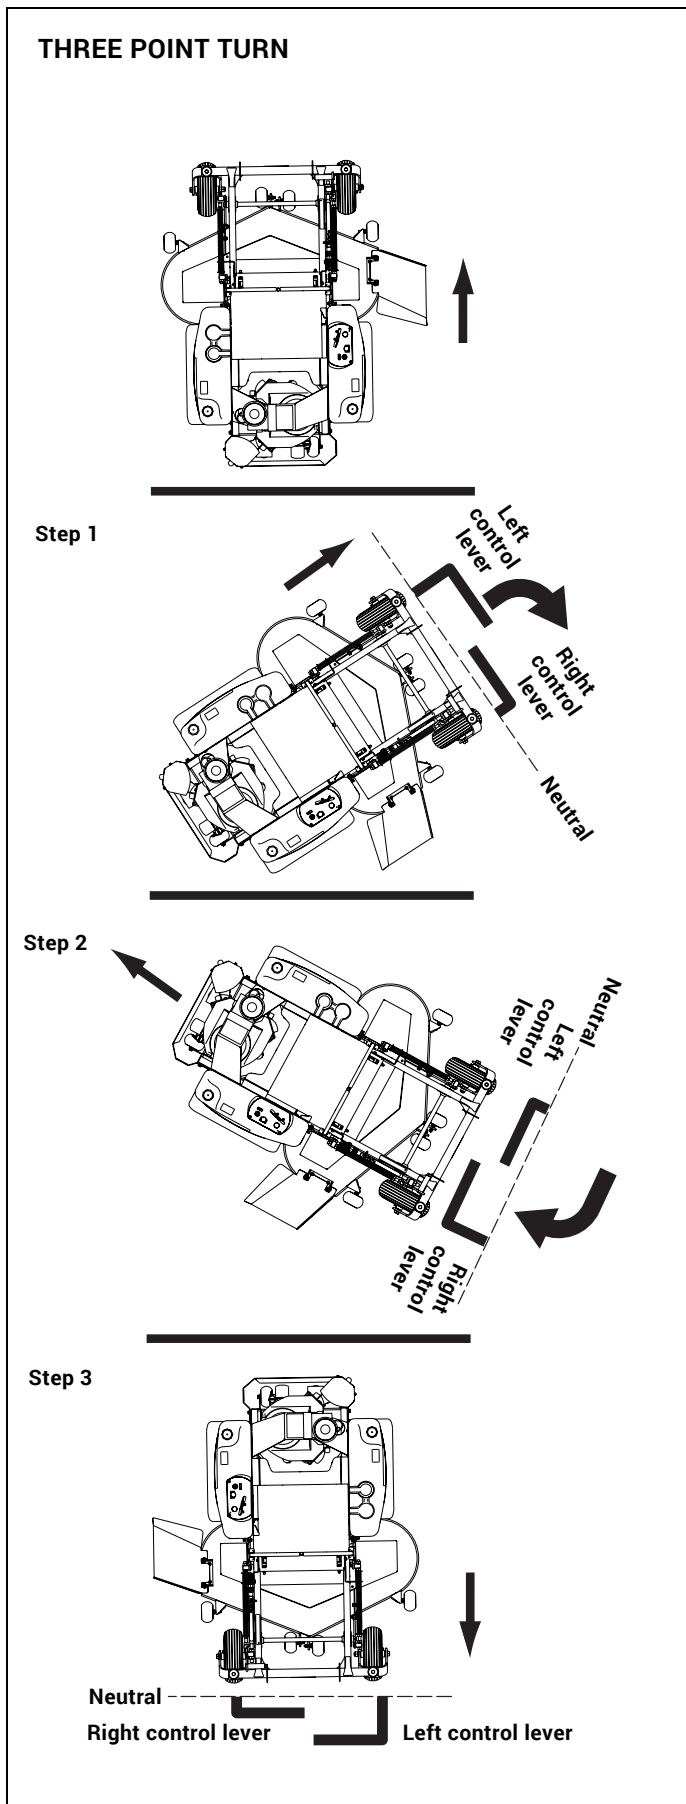

Figure 3-15
1. Move the left steering control lever farther forward from neutral than the right steering control lever and start the turn. Figure 3-15
2. Next, pull back on the steering control levers until they pass neutral and the machine starts to go rearward. Figure 3-15
3. Pull the right steering control lever farther rearward from neutral than the left steering control lever until the rear of the machine pivots around. Figure 3-15
4. Then, push the steering control levers forward until they both pass neutral and the machine starts to go forward. Figure 3-15
5. Push the left steering control lever farther forward from neutral than the right steering control lever and finish the turn. Figure 3-15